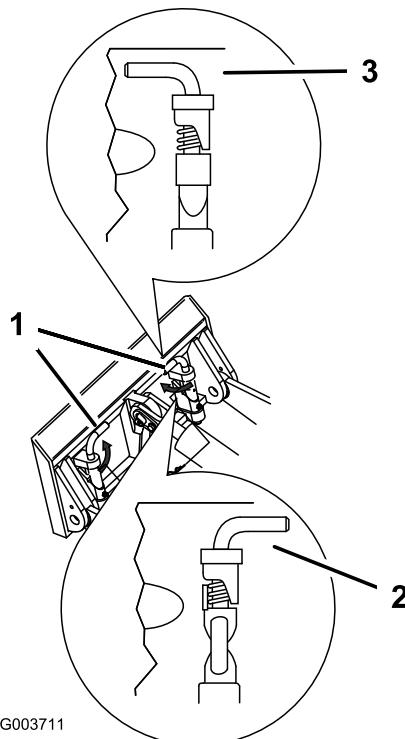

Figure 25
7. Engage the quick attach pins, ensuring that they are fully seated in the mount plate (Figure 25).